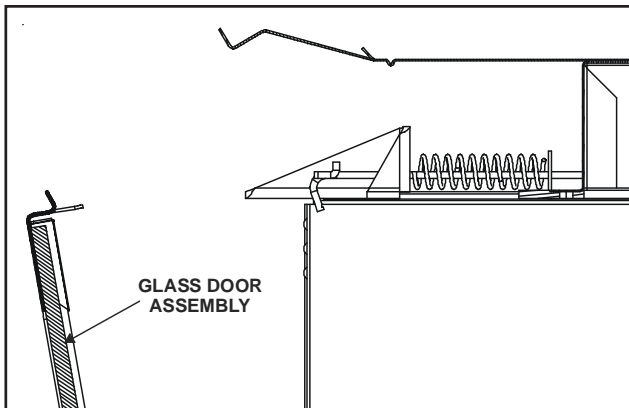

FIGURE 3.3
- Noting carefully how the brackets fit on the glass, release the two spring latches at the top and two at the bottom of the glass door. Carefully lift the glass up and out away from the appliance. See Figure 3.3.